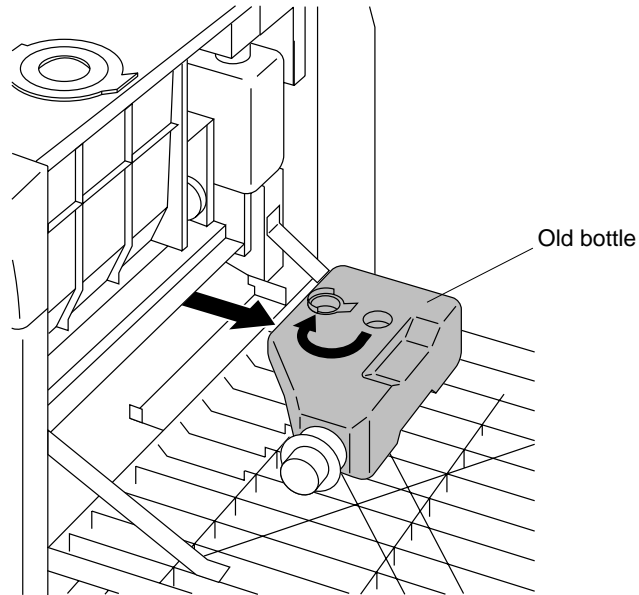

Figure A-8 Removing Developer Purge Bottle
- Open the upper right cover, and remove the developer purge bottle, as shown in Figure A-8.
8. Replace the cap, as shown in Figure A-8, and discard bottle.